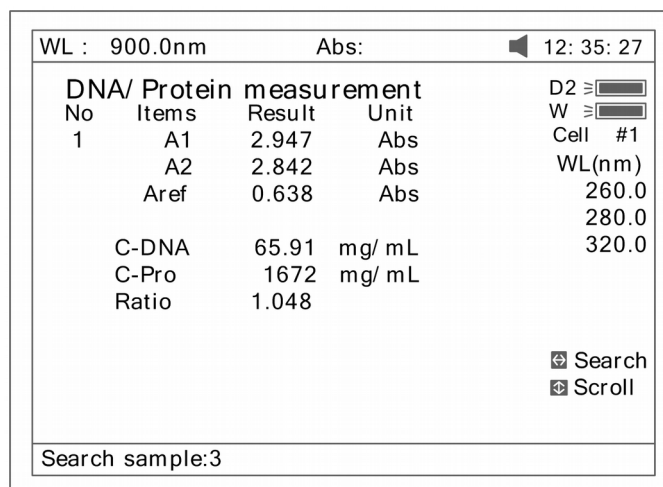

Fig 66
7. Press the key (<) or (>) for searching. Input the sample number (Fig 66), the result will be displayed on the screen. Press the key (^) or (v) to browse the test results one by one.